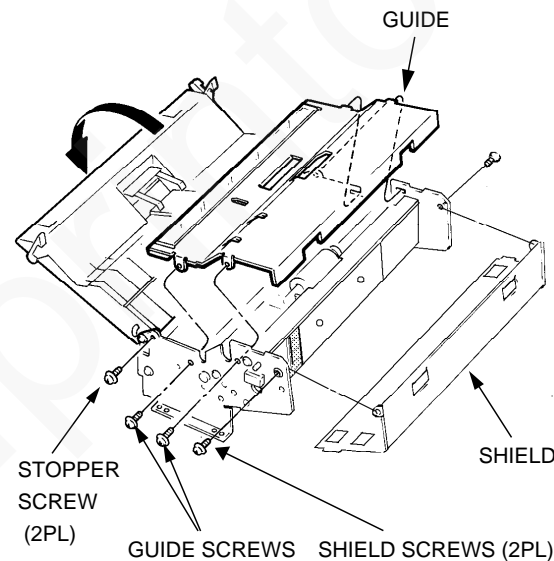

Figure 2. Guide/Shield
5. Loosen the two stopper screws, allowing the upper scanner to swing completely open (figure 2).
6. Remove the guide (figure 2).
7. Remove the shield (figure 2).